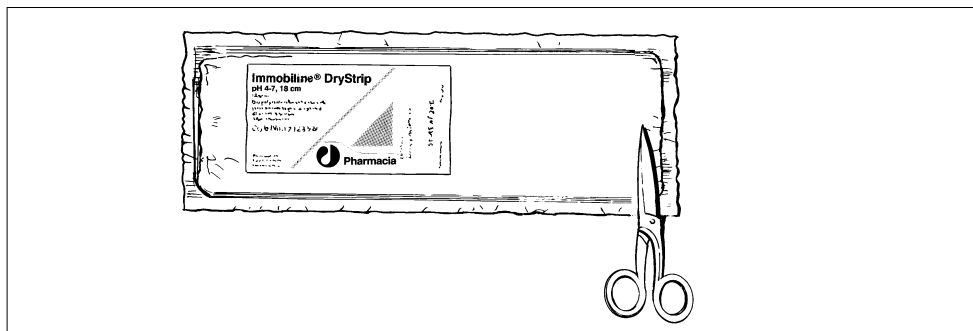

Fig. 1.
- Remove the appropriate number of dry strips from their foil case (Fig. 1).